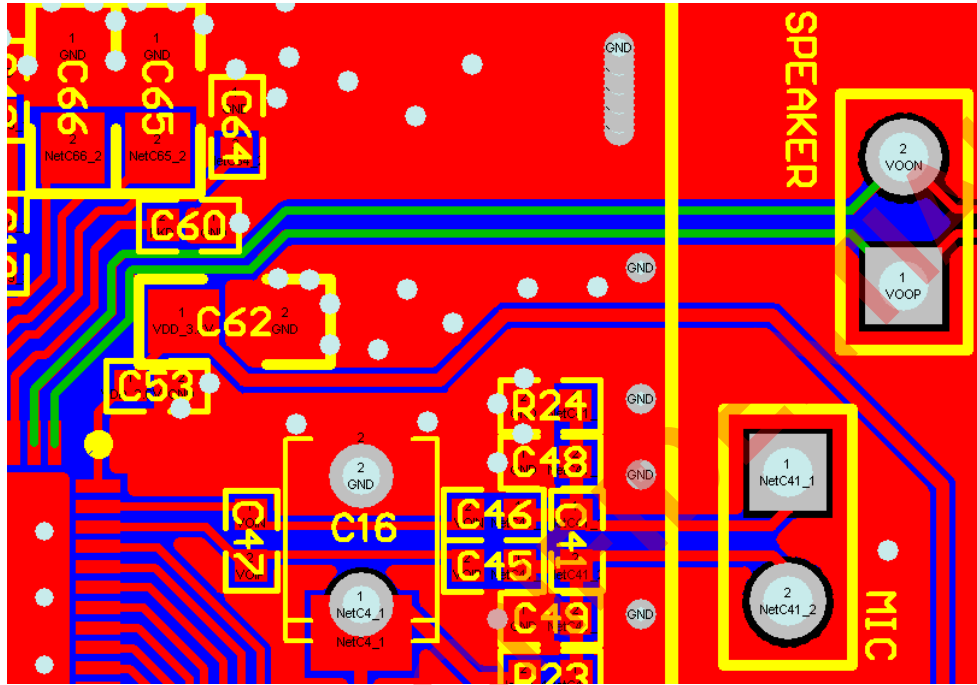

Fig 2.2f Speaker output trace(green)
8. The speaker output differential path (Pin 1: VOP and Pin 2: VON) should be balanced and routed in parallel, as the same distance as possible from start to end. Please refer to the green traces in Fig. 2.2f.